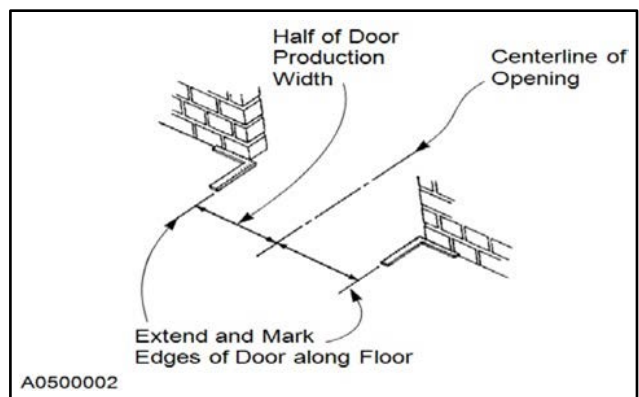

Figure 13
2. Using the centerline as a reference point, lay out and mark half of the door's production width along the floor. (See Figure 13)